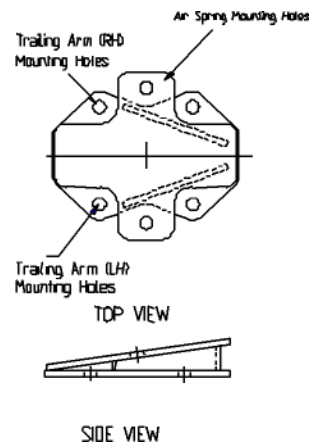

Figure 3
5. These are the holes on the top surface of the wedge as shown in *Figure 3*.